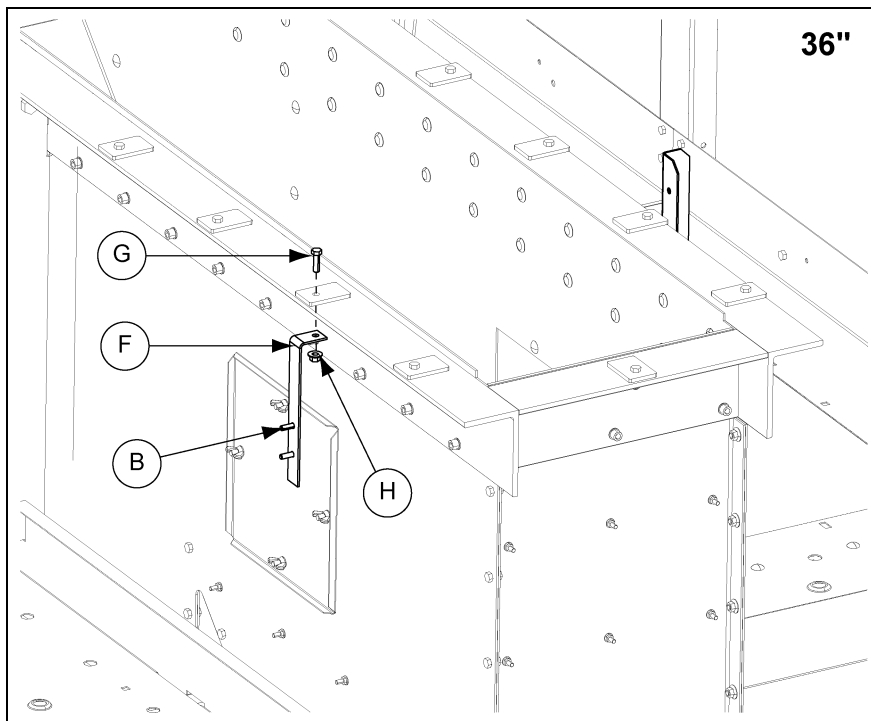

Figure 10G
1. Attach two (2) HP handrail supports (HP1636HS) (F) to lower head using 3/8" x 1-1/4" bolt (S-2071) (G) and nut (S-968) (H). \(See Figure 10G.\)